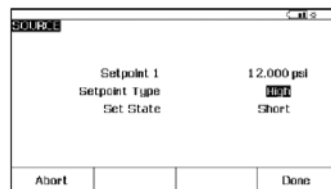
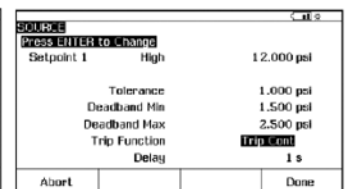
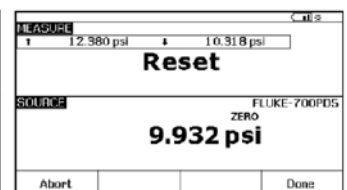

Figure 2
Figure 3
Figure 5
- Depress the enter key and enter the set-point value (see *Figure 2*) and depress enter. Configure the SET-POINT TYPE and SET STATE as shown, then fill in the test template as per *Figure 3*. Depress Done.
apparent that the set/reset has changed as indicated by the status in the measure screen. As the state changes, the actual set and reset points will be logged during the test (see Figure 5). When the set and reset states are captured (it is a good idea to repeat the testing of set and reset several times to confirm repeatability), depress the DONE softkey. Figure 6 shows the AS FOUND test result. Note that the DEADBAND ERROR is indicated in reversed type. If the AS FOUND set-point was greater than 1 psi from the nominal value of 12 psi, it would also be in reversed type. This reflects that these tests do not meet the tolerances specified in the test set-up (see Figure 3). Input the tag, serial number, and technician ID, and select Done. Vary the pressure across the set-point and make adjustments. Once the adjustments are finished, select the AS LEFT softkey. Repeat the test varying the pressure across the set-point. Once the test is complete, select the DONE softkey. If the adjustment was successful, the results should be similar to Figure 7 with all errors (SET-POINT and DEADBAND) in forward type indicating that the test tolerances as specified are met. If the test fails, re-adjust and repeat the AS LEFT until the test passes.
If the pressure switch test is performed from a task embedded in either Fluke’s DPC/TRACK or a compatible software package, selecting and performing the task is similar, but a few considerations should be reviewed. First, the embedded task will pre-configure all the setup steps in Figures 2 and 3. It is necessary to perform the zeroing of the pressure module in the Source screen as specified previously under the heading ‘Setting up the DPC.’ You can do this by depressing the MEASURE/ SOURCE button until the Source screen is displayed. Select pressure, vent the connection to atmosphere and select the CLEAR/ZERO button to zero the module. Once this is complete, depress the MORE CHOICES softkey until the Tasks selection is available. Select the TASKS softkey, select the pertinent task, and perform the test as noted previously under the heading ‘Performing the Switch Test.’ Tag and serial number will be automatically filled in the tag entry screen. The user will need to fill in their ID information if it is not pre-configured in the calibrator setup menu. Once the pressure switch is calibrated, it may be rendered tamper-resistant by sealing the threads of the adjustment screw or sealing the openings which were accessed for factory calibration.